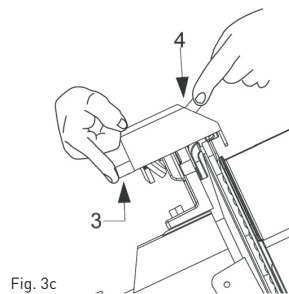

Fig. 3c
- push buttons simultaneously for 3/4 seconds (3 and 4, Fig. 3c) and then leave them simultaneously;